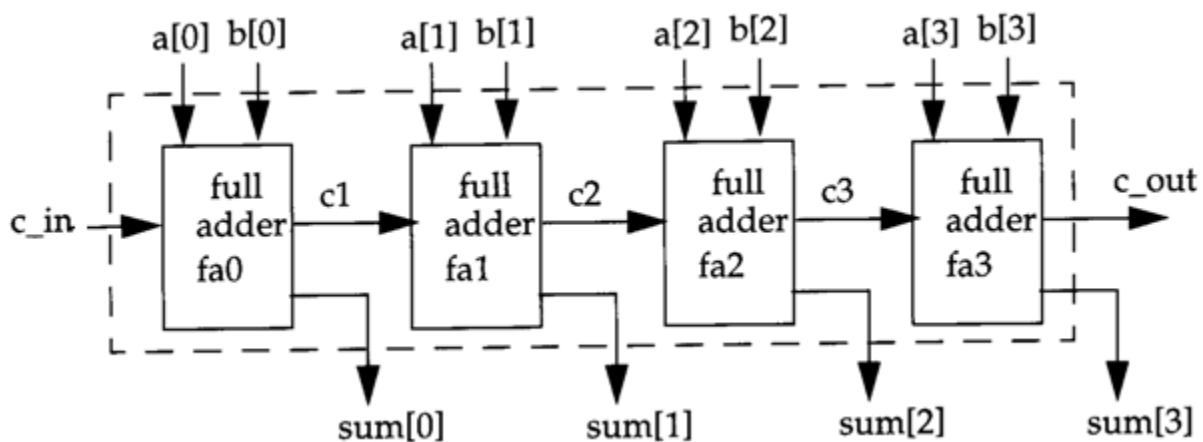

Fig.3.7: 4-bit Ripple Carry Full Adder using full adder as instance
- A 4-bit ripple carry full adder can be constructed from four 1-bit full adders, as shown in the fig.3.7 where fa0, fa1, fa2, and fa3 are instances of the module fulladd (1-bit full adder).